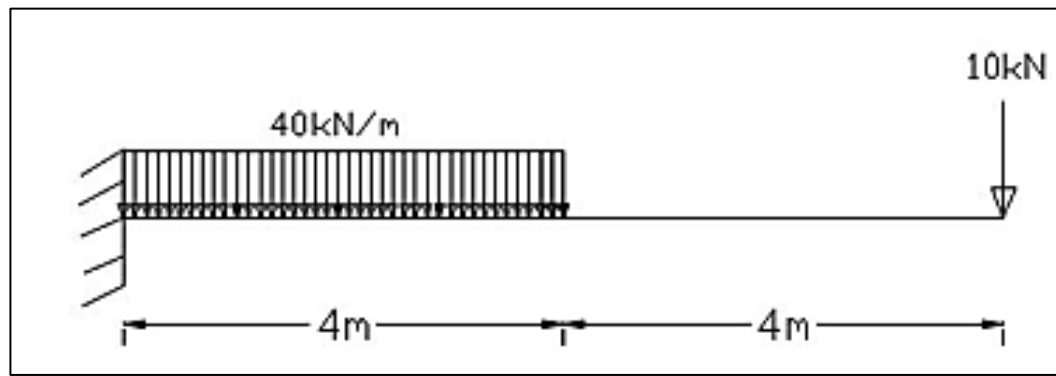

Fig. 5
4. (a) Construct the shear force and bending moment of the following beam shown in Fig. 5.